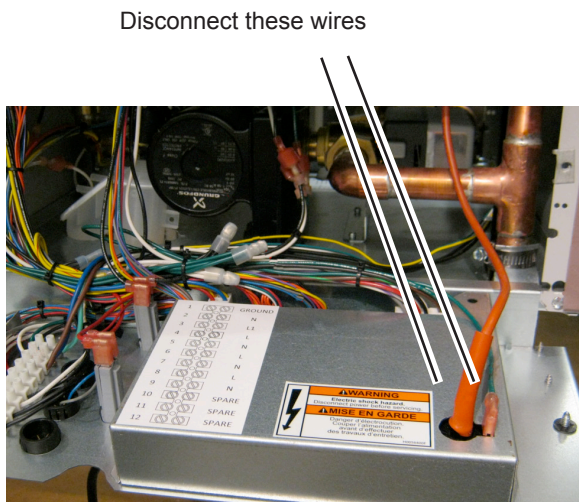

Fig. B1-4 - Removing the Metal Cover
5. You will notice a metal cover that protects the back of the control board. Disconnect the large red and small green wires for the direct spark ignition. See Fig. B1-4.